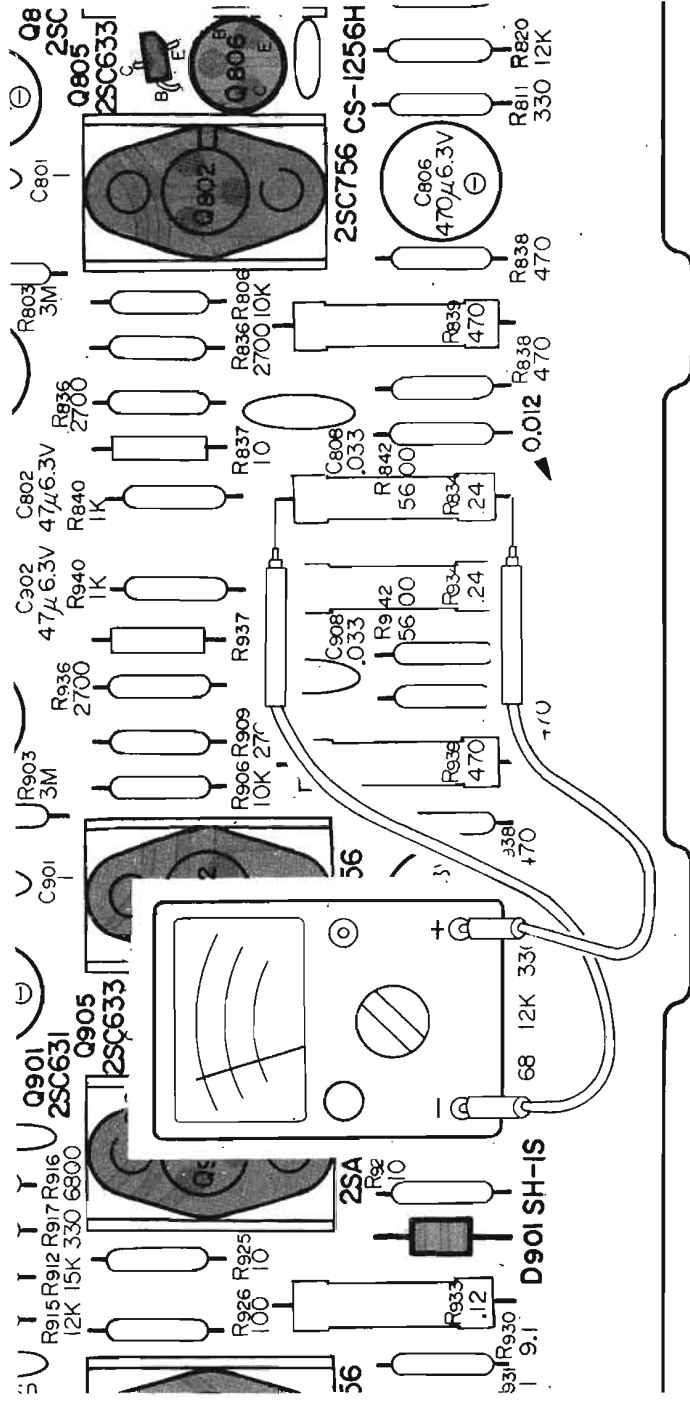

Fig. 4-7-1 DC Bias Adjustment Test Set-up
1. Connect the dc volt meter between the emitter of Q_{810} and ground as shown in Fig. 4-7-1.